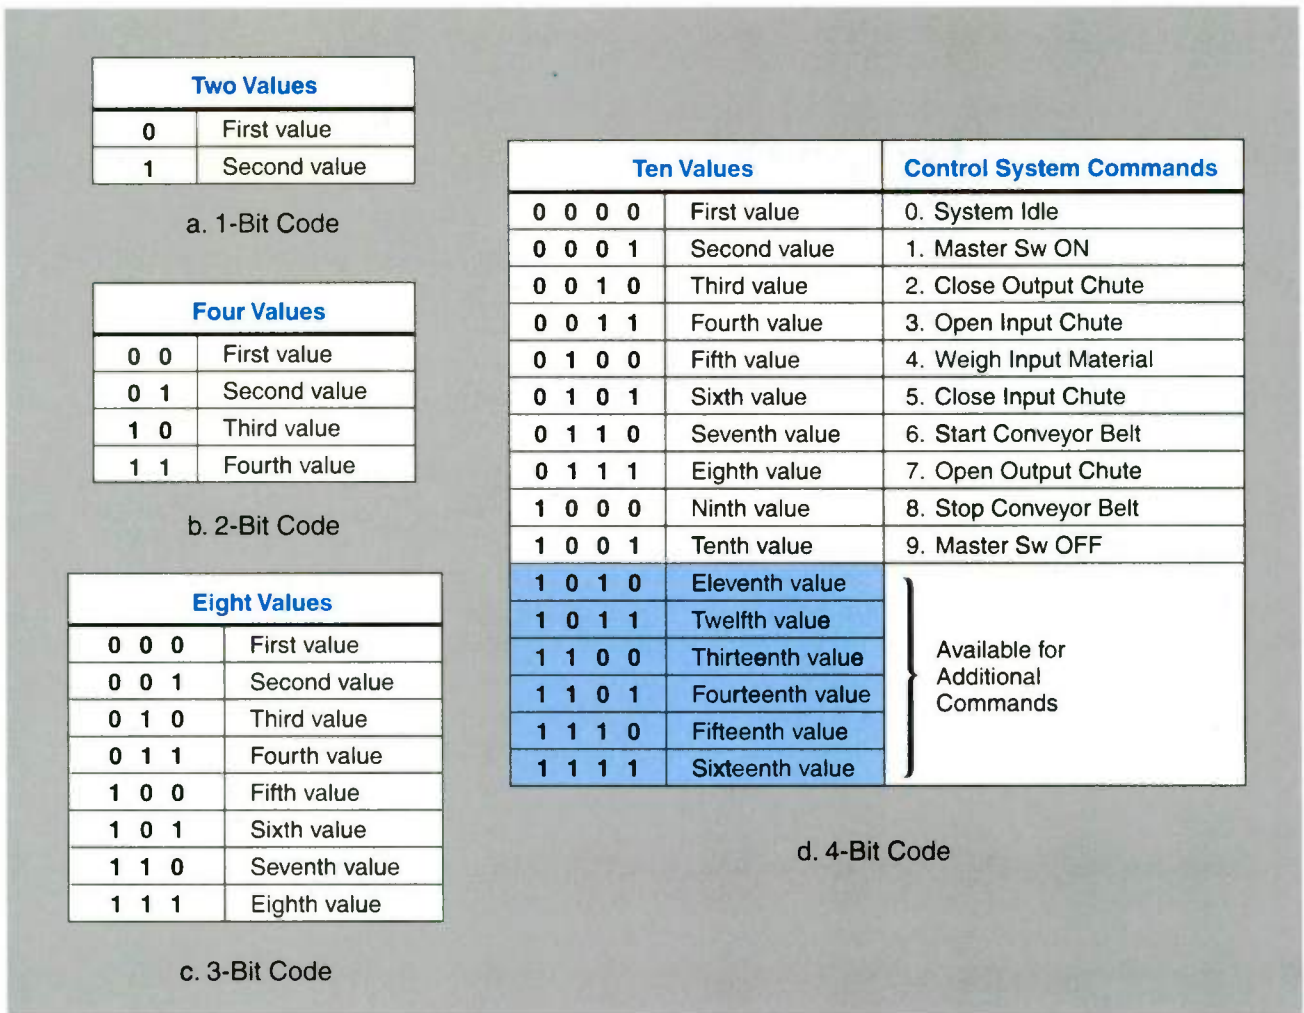

Figure 2-1. Bits are added to binary codes to represent more and more binary numbers, values, or commands.
*Figure 2-1* will help explain. A 2-bit code is required to represent four values, a 3-bit code for eight values, and a 4-bit code for 16 values, and so on. But note that a 4-bit code can represent not just 16 values, but 16 values. To represent more and more values (or different things), we just add more bits to the code. For a base-2 (binary) system, the number of bits  $n$  required to distinguish  $K$  different things is given by